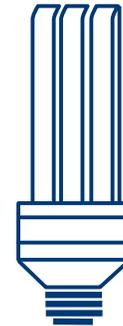

Figure 3: Compact fluorescent lights add less heat to the house than incandescent lights.
- Keep your interior lights low or, if possible, completely off during the daylight hours. Light fixtures generate heat, and therefore add to your cooling costs (Figure 3). Appliances such as TVs and stereos